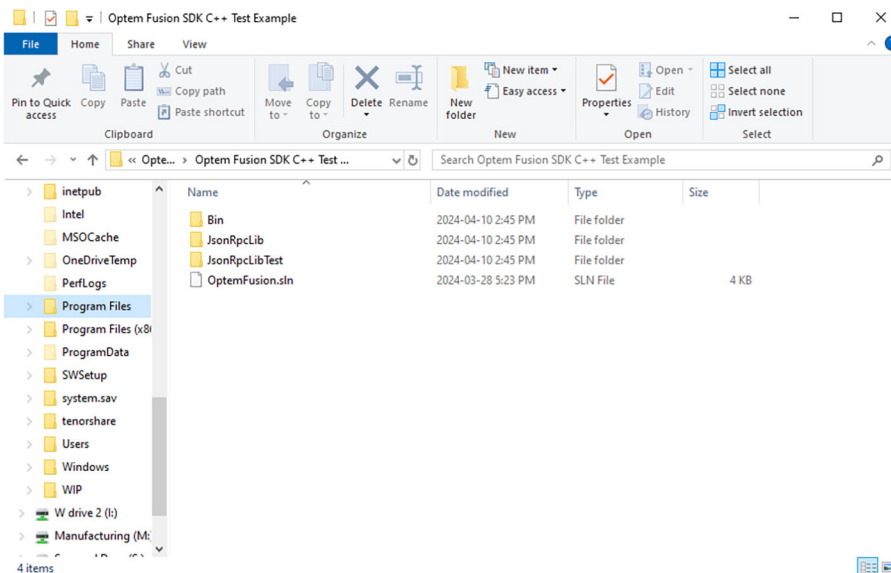

Figure 52 C++ Test Example Executable File Folders
1. Locate the executable file from the following folder (see Figure 52):